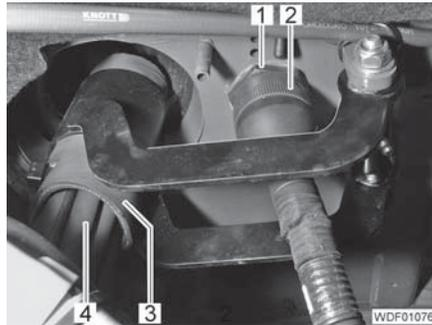

Fig. 362 Underside of the cab
- Unplug the connector (Fig. 362,2).
- Unscrew the nut (Fig. 362,1).
- Screw the nut (Fig. 362,1) with the washer onto the connector and tighten.
- Insert the plug (Fig. 362,2).